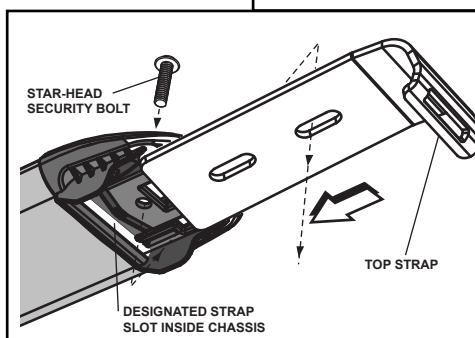

FIG 2
3. Slide Top Strap into End Support Chassis (as shown in Fig 2). Fit Star Head Bolt through the slot closest to the curled end of the Top Strap. This will allow correct Strap alignment while fitting Screw in Step 4.